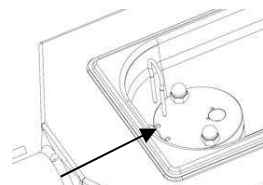

fig. 27
- Slide the whipping assembly into the housing, turning lightly. Turn and move the whipping pipe back and forth until the locking device can be inserted all the way. (fig. 27)